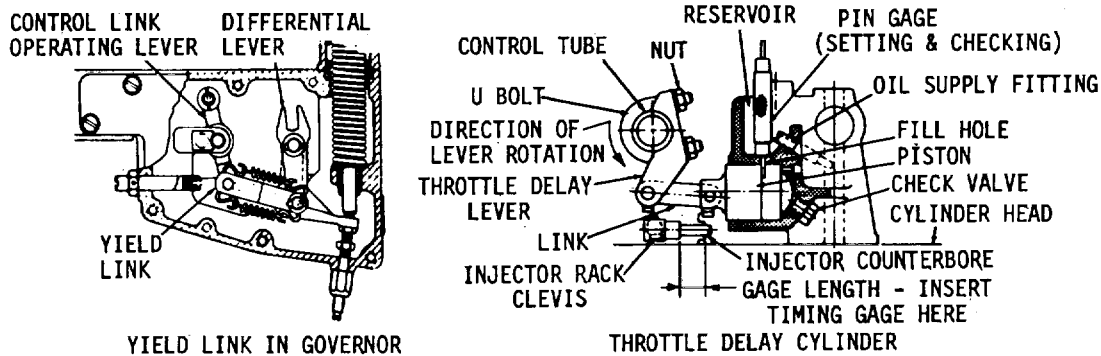

Fig. 12
The throttle delay mechanism (Fig. 12) is installed between the No. 1 and No. 2 cylinders on the right-bank cylinder head. It consists of a special rocker arm shaft bracket (which incorporates the throttle delay cylinder), a piston, throttle delay lever, connecting link, orifice plug, ball check valve and U-bolt.
Oil is supplied to a reservoir above the throttle delay cylinder through an orifice plug in the drilled oil passage in the rocker arm shaft bracket (Fig. 12). As the injector racks are moved toward the no-fuel position, free movement of the throttle delay piston is assured by air
- (1) Refer to Fig. 12 and insert gauge J 25559 (.570" setting) when 9285 mm injectors or lower output are used, or J 25560 (.636" setting) when 9290 mm injectors or higher output are used, between the injector body and the shoulder on the injector rack clevis of the injector nearest the throttle delay cylinder.
- (2) Hold the governor throttle in the maximum speed position. This should cause the injector rack to move toward the full-fuel position and against the gauge.
- (3) Insert the pin gauge J 25558 (.072" diameter setting end) in the cylinder fill hole.
- (4) Rotate the throttle delay lever in the direction shown in Fig. 12, until further movement is limited by the piston contacting the pin gauge.
- (5) Tighten the U-bolt nuts while exerting a slight amount of torque on the lever, in the direction of rotation. Be careful not to bend the gauge or damage the piston by using excessive force.
- (6) Check the setting as follows: